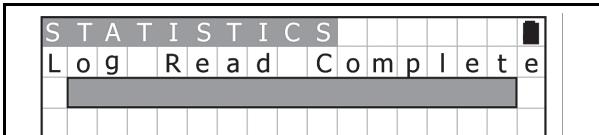

Figure 22 Log Read Complete Screen
- Once reading of the Acceptance Log is complete, the LCD will display a “Log Read Complete” Screen, as shown in Figure 22.